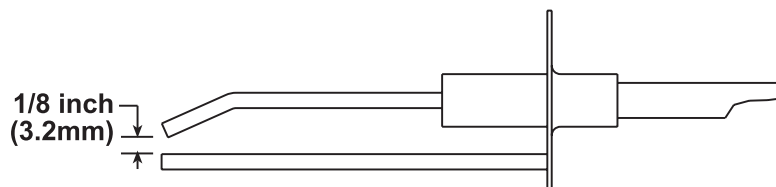

Figure 24. Ignitor Spark Gap
- The spark gap (see Figure 24) must be maintained to 1/8 inch.